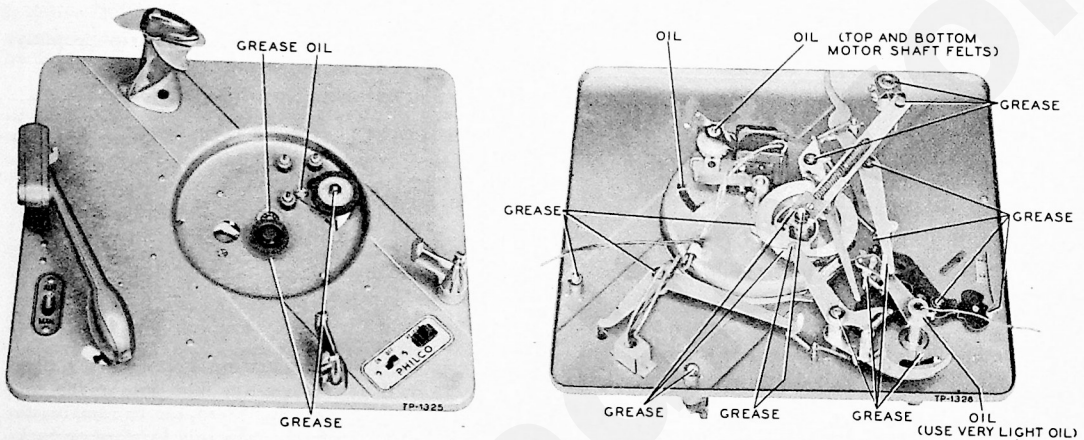

Figure 5. CHANGER LUBRICATION POINTS
**CLEANING AND LUBRICATION** — Cleaning and lubrication of the record changer should be done periodically or when a major part or assembly is replaced. Carbon tetrachloride or other similar cleaning fluid may be used to remove dirt, old oil or grease. All lubrication points are shown in figure 5.